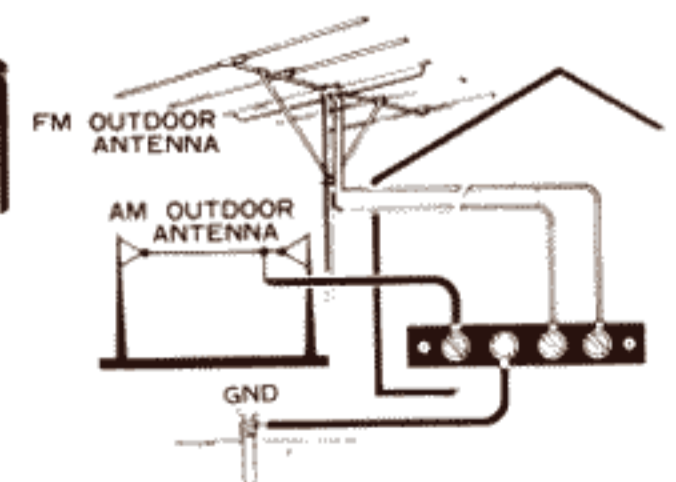

Fig. 13
- When using Model SX-1500TD at a long distance from the station, or within a building, install an outdoor FM antenna, and connect it to the FM antenna terminals (28) as in Fig. 13.
- If input is still not enough, install an AM antenna outdoors instead of using the lead wire antenna. (See Fig. 13).